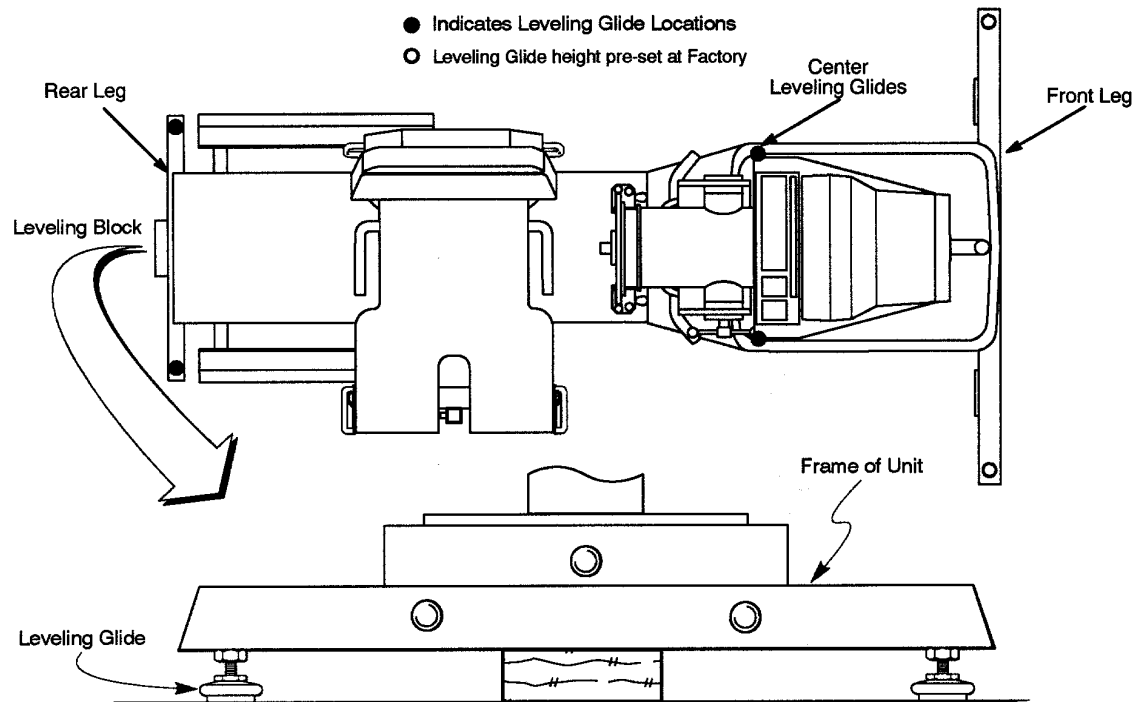

Figure 3-3. System Stabilization.
To adjust the leveling glides on the Seat Assembly Module, the leveling block must be placed under the rear of the unit (in the exact center of the module) so the glide screws can be extended equally. (See Figure 3-3.)
1. Return Seat Assembly to the rear carriage position. Adjust center leveling glides until stops contact floor and the glide cannot be turned by hand. (See *Figure 3-3*.)